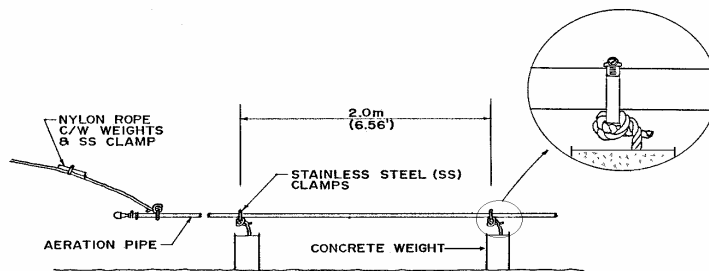
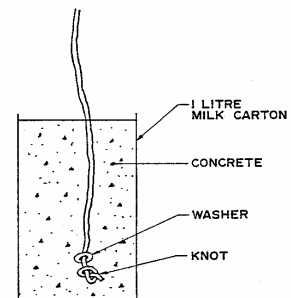

Fig. 2 Weight Attachment
Fig. 3 Concrete Weight
2. Construct concrete weight. (SEE NOTE BELOW ABOUT ALTERNATE WEIGHTS). A one-litre milk carton half filled with concrete will result in a 1 kg (2.2 lb.) weight. Imbed one end of a nylon rope or coated wire e.g. TWU #12 that is knotted and tied to a washer into the wet concrete (Fig. 3). The other end of the wire (AFTER CONCRETE HARDENS) is tied to the polyethylene pipe every 2 m (6 ft) and clamped, using stainless steel clamps (Fig. 2). Attach the weights as close as possible to the pipe.